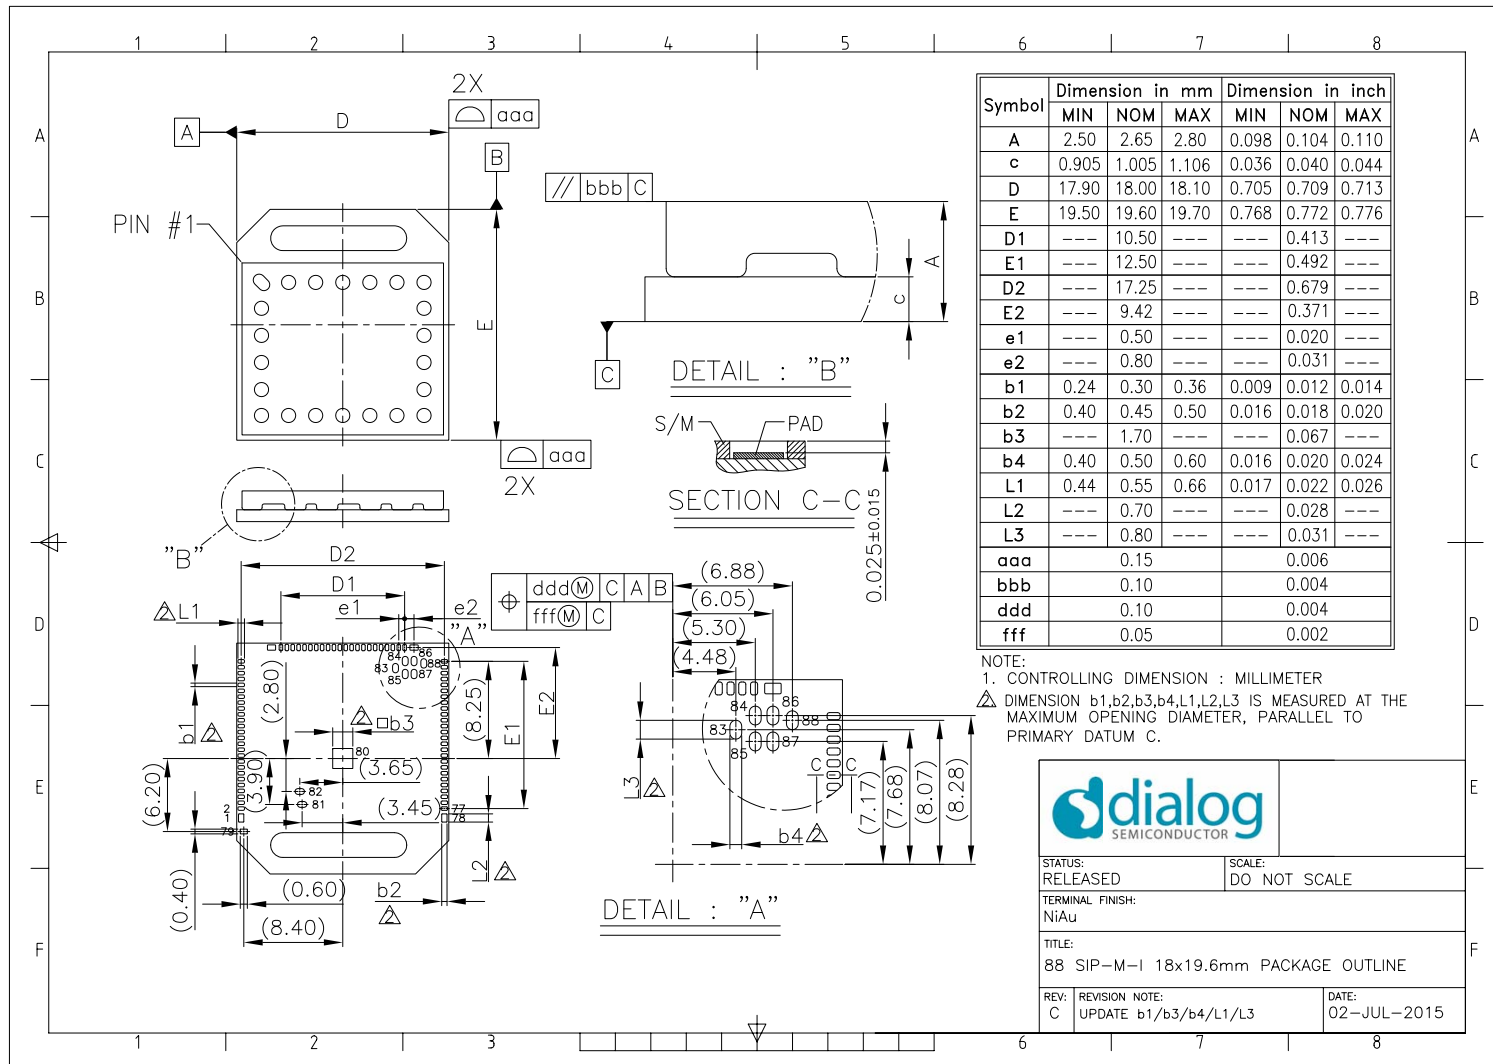

Figure 21: Package outline drawing
See Figure 18 and Figure 21 for the detailed package outline.
- Package outline drawing updated (Figure 21).